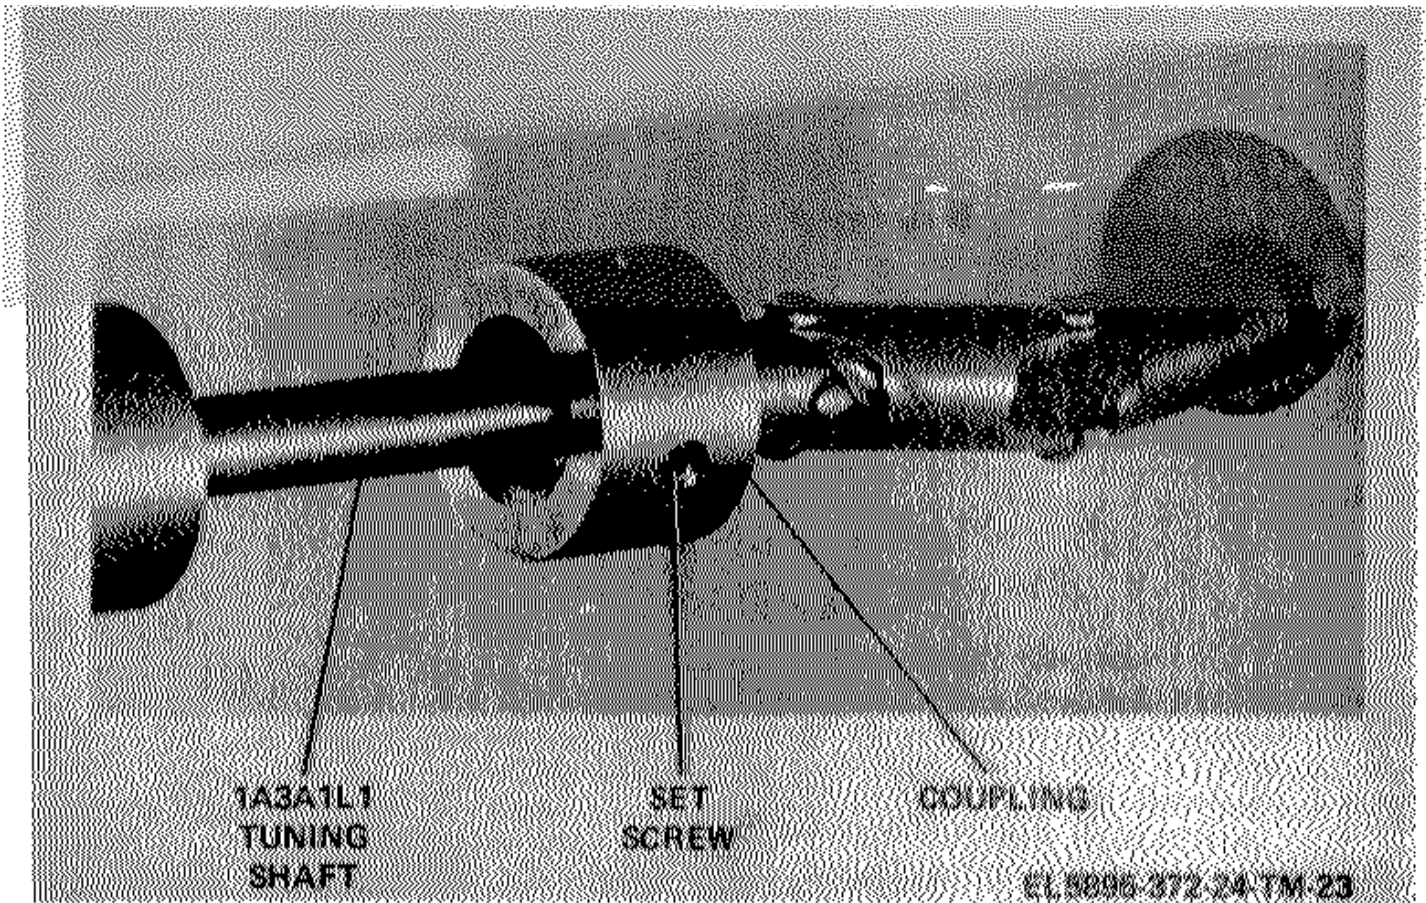

Figure 4-8. Ipa 1A3A1L1 tuning adjustment.
(1) Slide rfa out of equipment rack and disconnect all cable connectors. Remove rfa from equipment rack.
(2) Cable rfa back into AN/TLQ-15 using extender cables 3W12 through 3W14 and 3W31 through 3W33.
(3) Remove both left and right rfa access covers.
(4) Loosen setscrews on coupling securing ipa tuning control shaft and 1A3A1L1 tuning shaft (fig. 4-8).
(5) Adjust ipa tuning control on rfa for 20 on IPA TUNING indicator dial.
(6) Adjust 1A3A1L1 tuning shaft until shorting tap on indicator is 1 1/4 turns from rear of inductor.
(7) Tighten setscrews on coupling securing ipa tuning control shaft and 1A3A1L1 tuning shaft (fig. 4-8). Ensure that shafts are pulled into coupling as far as possible to reduce side-play.
(8) Install both left and right rfa access covers.
(9) Tune AN/TLQ-15 for 2 kW at 20 MHz into dummy load. Refer to TM 11-5895-372-10 for tuning procedure.
(10) Set rt unit RF OUTPUT control fully ccw and set control unit HIGH VOLTAGE switch to off (white).
(11) Remove both left and right rfa access covers.
(12) Loosen setscrew on coupling securing ipa tuning control shaft and 1A3A1L1 tuning shaft (fig. 4-8).
(13) Adjust ipa tuning control for 20 on IPA TUNING indicator dial.
(14) Tighten setscrews on coupling securing ipa tuning control shaft and 1A3A1L1 tuning shaft (fig. 4-8). Ensure that shafts are pulled into coupling as far